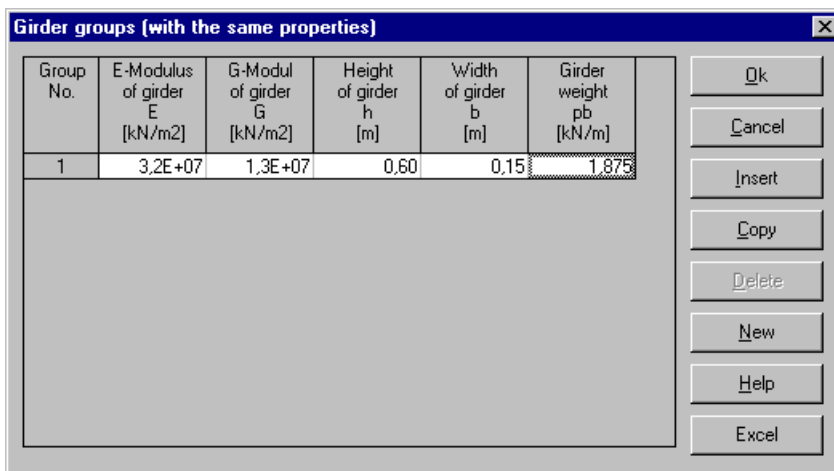

Figure 2-16 "Defining girder groups" list box
After clicking "OK" button in the "Cross section definition" option box, the following list box in Figure 2-16 appears.
- Enter the material properties of the girder, cross section dimensions and the girder weight as indicated in Figure 2-16. This is done by entering the value in the corresponding cell and press "Enter" button